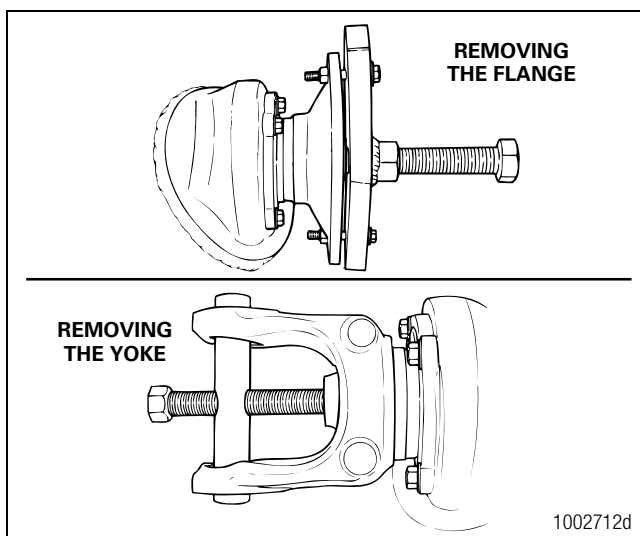

Figure 3.7
4. Remove the thru-shaft nut, washer and yoke or flange. Use a puller tool to remove the yoke or flange from the shaft. Figure 3.7.